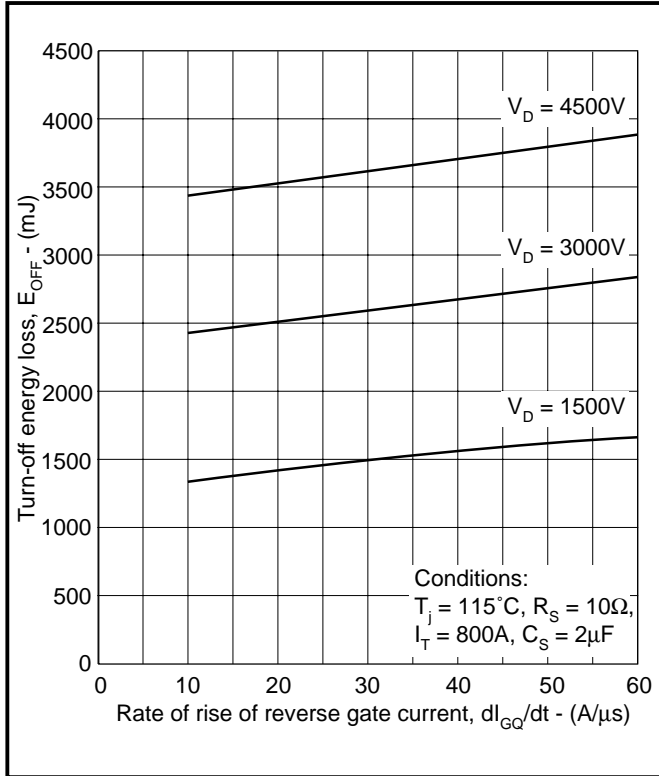

Fig. 5 Turn-off energy vs rate of rise of reverse gate current
1. Figure 5 shows the increase in turn-off switching loss with di_{gt}/dt . However, at high di_{gt}/dt values, above about 50A/ μ S, the rate of increase is low so the loss penalty for using high di_{gt}/dt values is small.